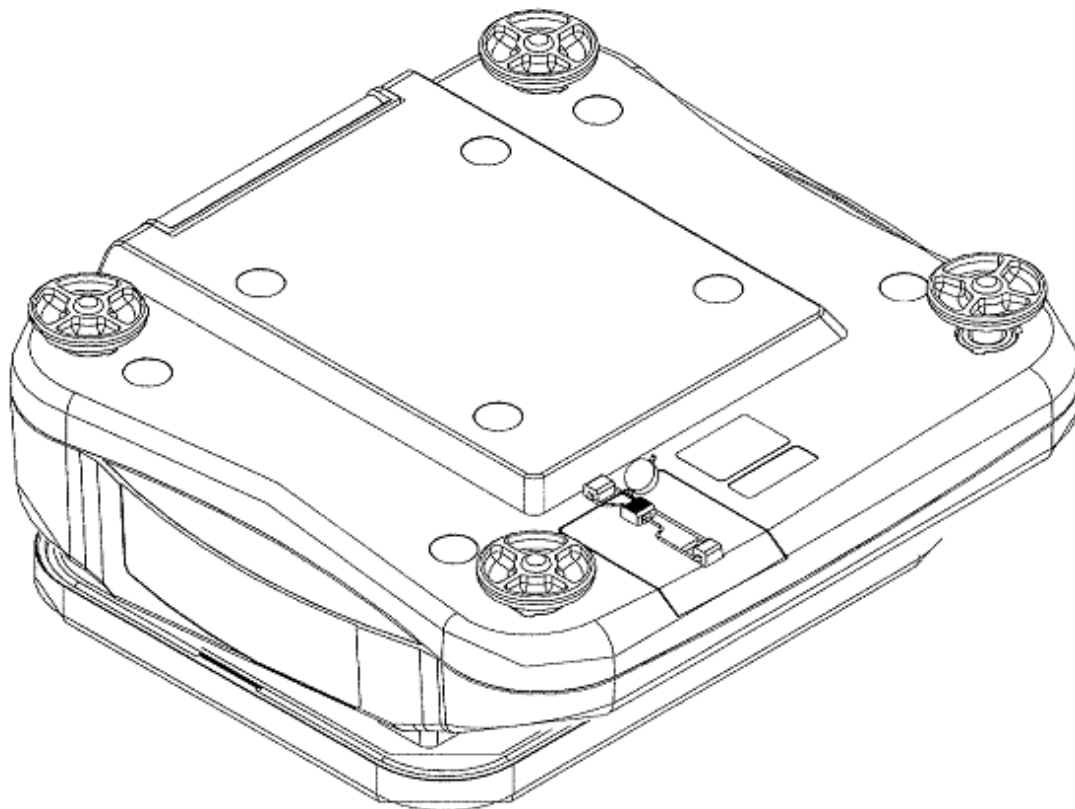

Figure 4 Sealing diagrams
A wire and lead seal sealing the two entry ports on the bottom of the instrument prevent access to the load cell, main circuit board and calibration lock switch. (see Figure 4).
- Figure 4 Sealing diagram